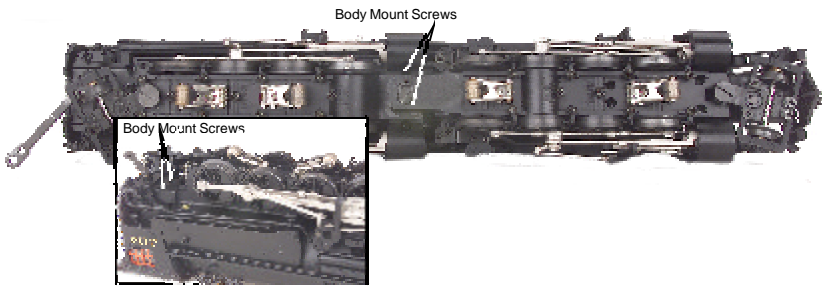

Figure 5: Removing The Body
2. First remove the trailing truck on the chassis by removing the screw shown in Fig. 5. Then remove the four body mount screws to separate the chassis from the boiler.
1. Remove the boiler from its chassis as shown in Fig. 5 on pg. 12.
If you experience poor or no smoke output when the smoke unit is on and has fluid, check the wick to see if it has become hard, blackened, and unabsorbent around the heating element. To remove the smoke unit you will first have to remove the boiler shell (by removing the body mounting screws shown in Fig. 5 on pg. 12), board and bracket that block the smoke unit assembly from being accessed. To do this, follow these instructions: